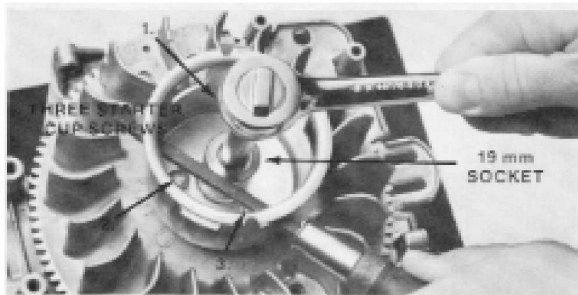

Figure 4-5
2. Use a 19 mm socket to remove the flywheel nut. See Fig. 4-5.